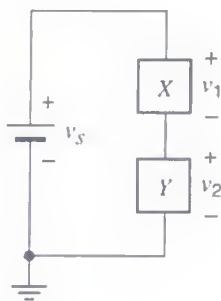

Fig. 1
1. Construct the series circuit shown in Fig. 1. For this experiment  $X$  and  $Y$  will be resistive elements provided to you (e.g., two different-valued linear resistors with values of several  $K\Omega$ ; you can learn to read resistor values as explained in Appendix A). Set the